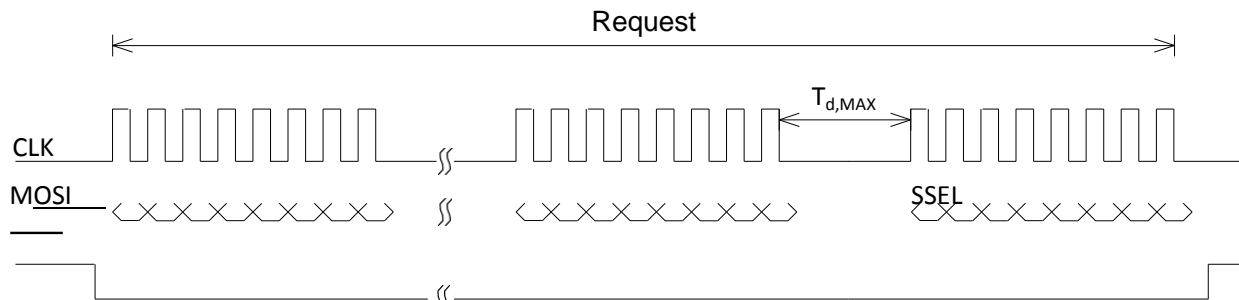

Figure 11-6: SPI Request Timing
- For the request data on the MOSI line, the host software should keep the SSEL pin at steady state low as shown in Figure 11-6 below.